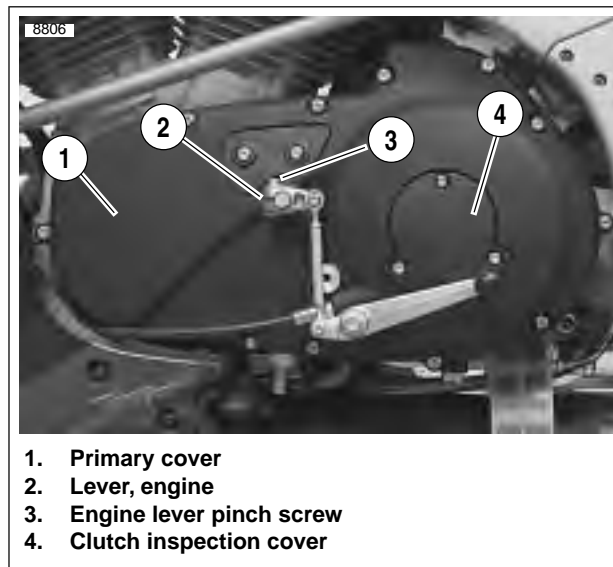

Figure 6-8. Installing Primary Cover
11. See Figure 6-8. Install clutch inspection cover (4) with **new** gasket and three TORX screws with washers. Tighten screws in a crosswise pattern to 84-108 **in-lbs** (9.5-12.2 Nm).
12. Install rubber washer and shifter lever assembly (2).
13. Tighten engine lever pinch screw (3) to 12-14 ft-lbs 16.3-19.0 Nm)